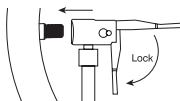

Fig. 1
2. Push the lever of the air hose to lock it into place (see Fig. 1).